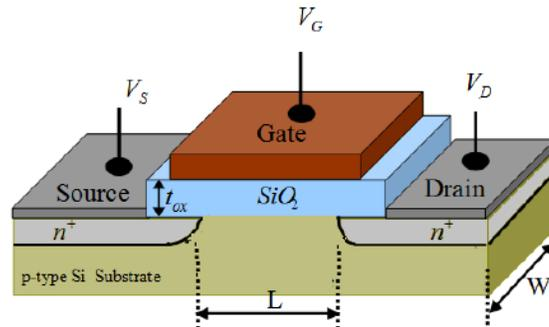

Figure 39: Physical Representation of a MOSFET
A simplified version of the physical structure of an n-channel enhancement-mode MOSFET (also known as NMOS transistor) is shown in Figure 39: Physical Representation of a MOSFET. The three terminals are the gate (G), the drain (D) and the Source (S). The areas in black are the electrodes where the terminals are connected to the transistor. The dashed area under the gate is a thin layer of insulating material. Because of this insulating material, there is no path for current to flow into or out of the gate. The gate is the control terminal that determines how much current will flow from drain to source.